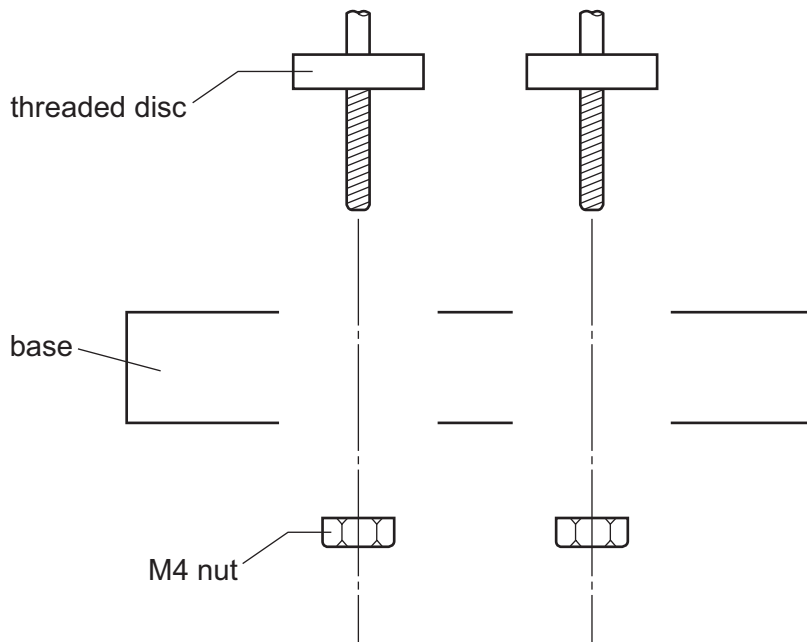

Fig. 12
- (d) Complete the drawing in Fig. 12 to show how the rod could be attached to the base using M4 nuts.